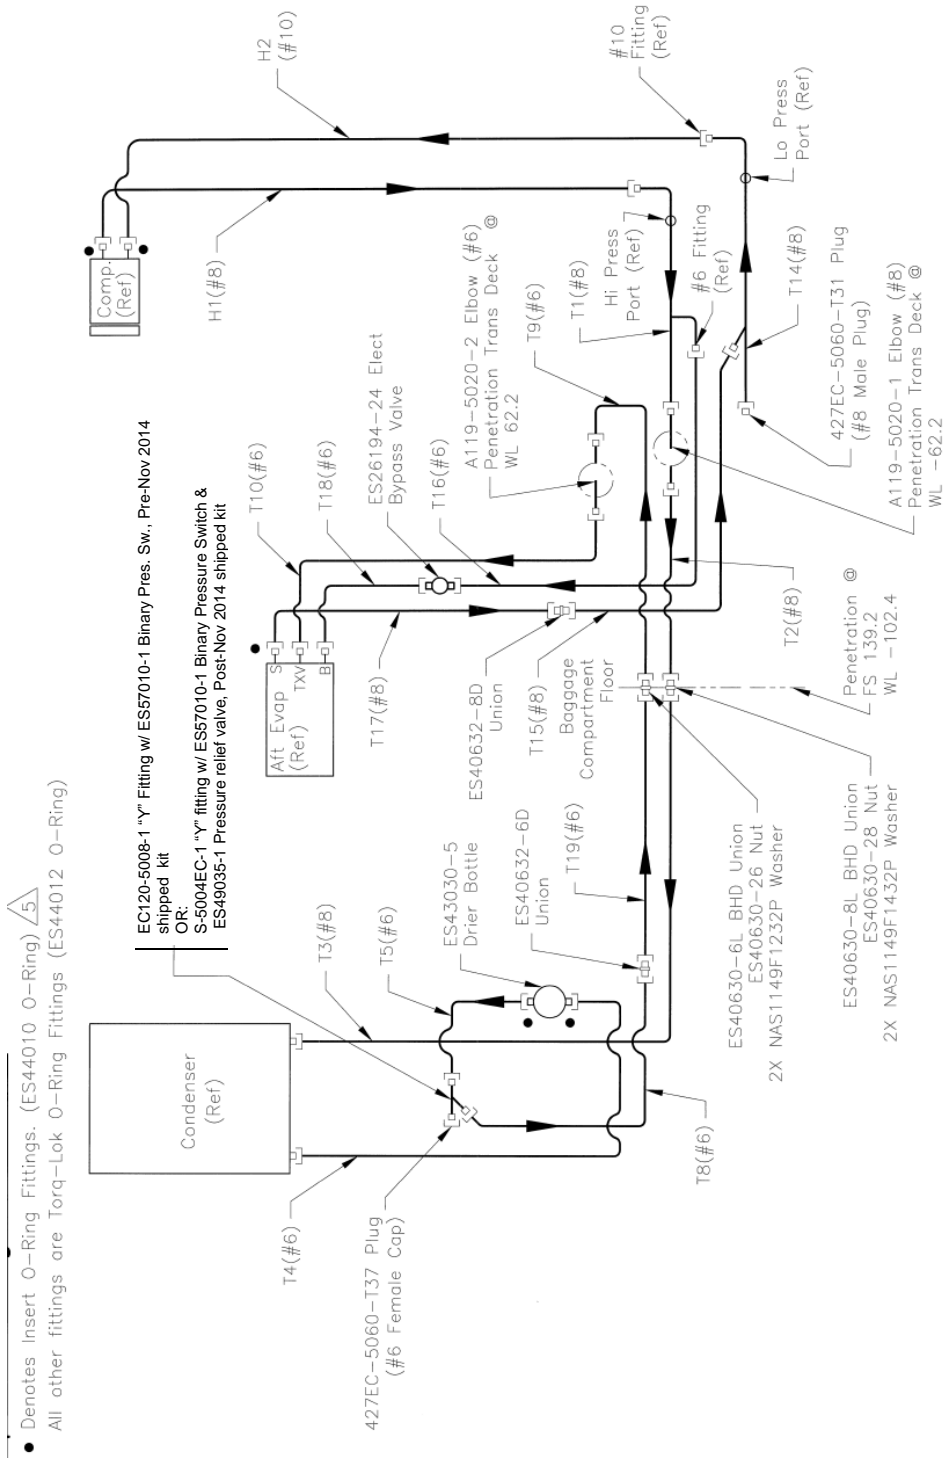

Figure 8.9 AC System Plumbing Schematic, kit w/Aft Evaporator only
- A. Access the By-pass Valve. Refer to plumbing schematics Figures 8.9 & 8.10. The valve is located near the Aft Evaporator on the transmission deck.